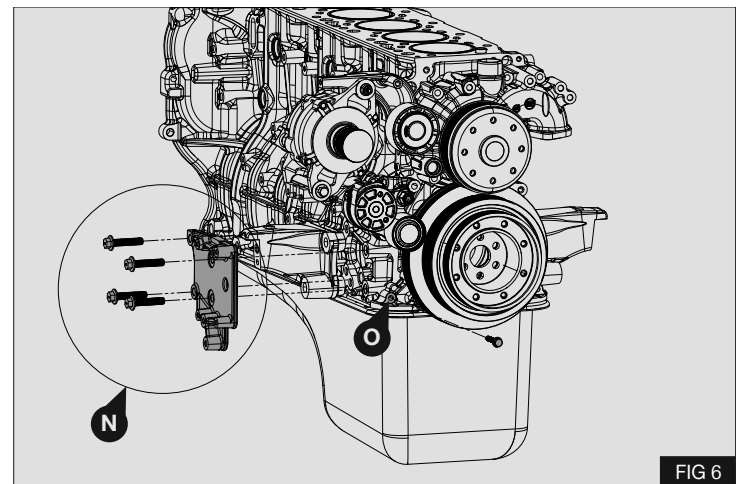

FIG 6
8. Remove and discard bracket \textcircled{N} and its fasteners. Remove and discard fastener from point \textcircled{O} . Clean excess paint from point \textcircled{O} . - Fig 6